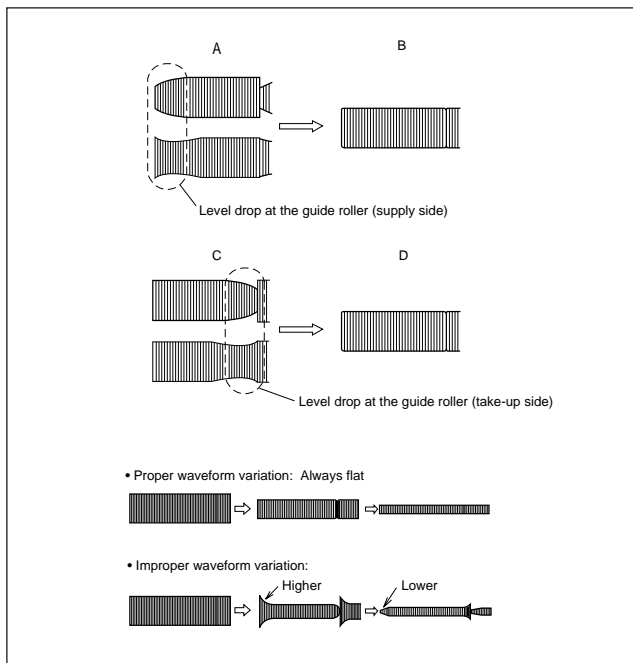
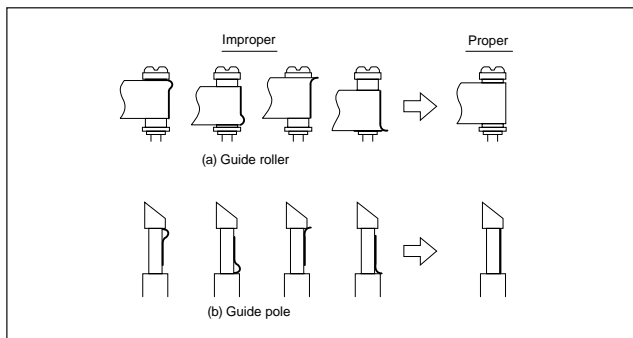

Fig. 2-3-1c
Fig. 2-3-1d
- (5) Reduce the V.PB FM waveform by the tracking operation. If a drop in level is found on the left side, turn the guide roller of the pole base assembly (supply side) with the roller driver to make the V.PB FM waveform linear. If a drop in level is on the right side, likewise turn the guide roller of the pole base assembly (take-up side) with the roller driver to make it linear. (See Fig. 2-3-1c.)
- (6) Make sure that the V.PB FM waveform varies in parallel and linearly with the tracking operation again. When required, perform fine-adjustment of the guide roller of the
- (7) Unload the cassette tape once, play back the alignment tape (A1) again and confirm the V.PB FM waveform.
- (8) After adjustment, confirm that the tape wrinkling does not occur at the roller upper or lower limits. (See Fig. 2-3-1d.)